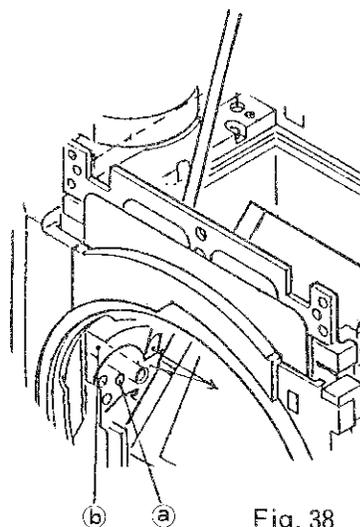

Fig. 38
3. Insert a screwdriver (-) between the mirror arm and mirror housing (Fig. 38), and push the mirror arm in the arrow direction to remove the arm from pin (a), then at the same time, remove arm pin (b) from the winder unit and mirror-up lever, and while pushing it toward the mirror side, pull up the mirror housing.